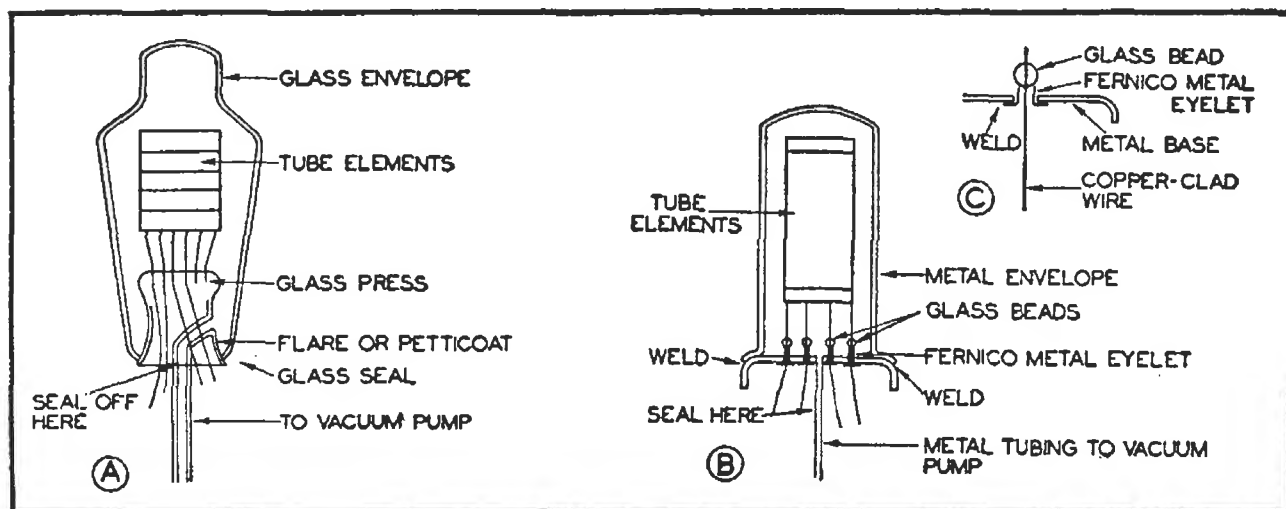

FIG. 9. A comparison of the construction of a glass envelope tube and a metal envelope tube.
► Fig. 9 shows the method of sealing both a glass-envelope tube and a metal-envelope tube. A metal tube differs from a glass tube in having